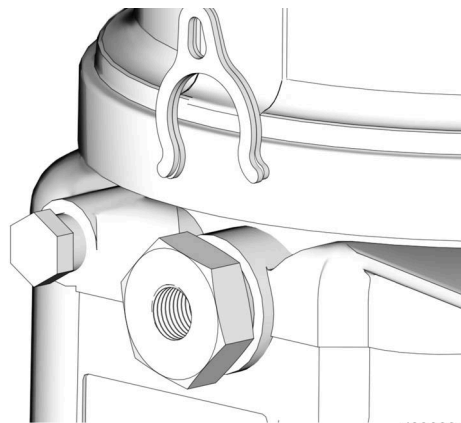

FIG. 11
Pump volume control is set using either no (0) spacers, 1 or 2 spacers (FIG. 11).